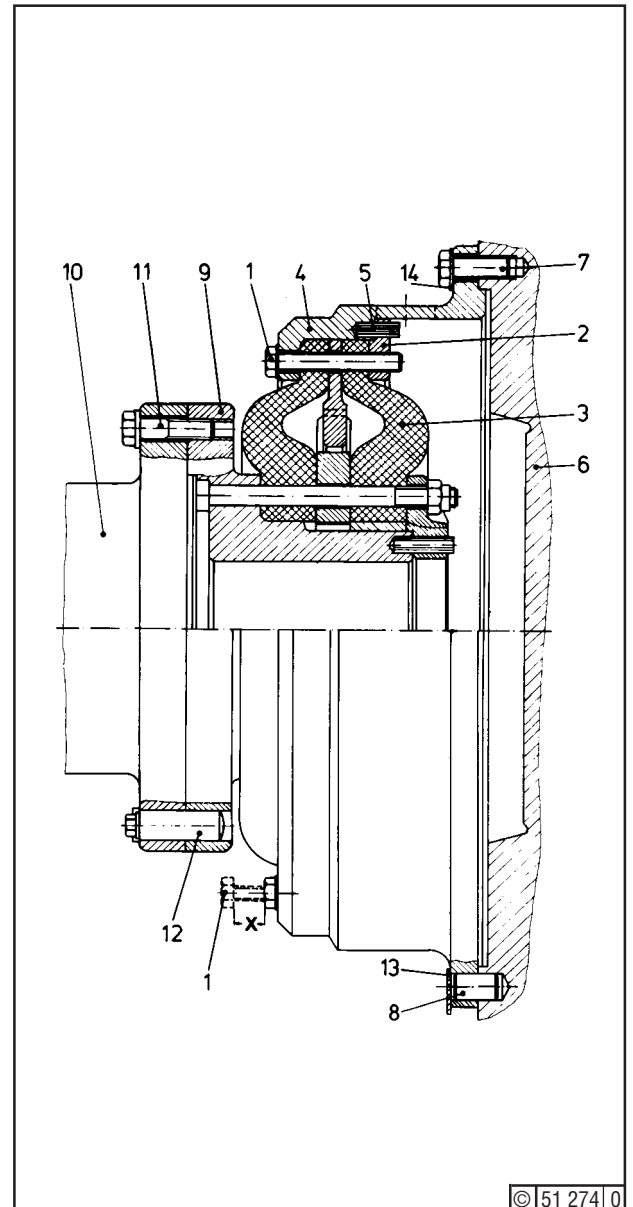

Fig. 1
Attach coupling to hoist. Mark flanged jacket (4) - Fig. 1 - relative to flywheel (6), and coupling flange (9) relative to flanged hub (10).